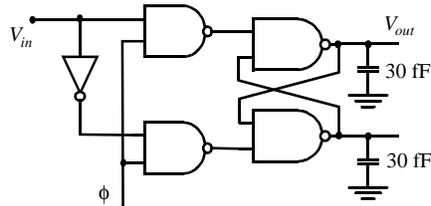

Figure 0.12 Simple synchronizer
11. Figure 0.12 shows a simple synchronizer. Assume that the asynchronous input switches at a rate of approximately 10 MHz and that  $t_r = 2$  nsec,  $f_\phi = 50$  MHz,  $V_{IH} - V_{IL} = 0.5$  V, and  $V_{DD} = 2.5$  V.